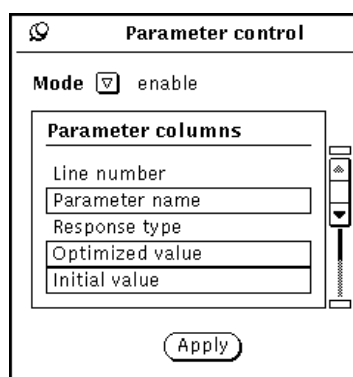

Figure 6-12: Parameter Control Popup, Enable Mode
1. Choose **Control...** from the View pulldown menu, and the **Parameter control** popup shown in Figure 6-12 appears.